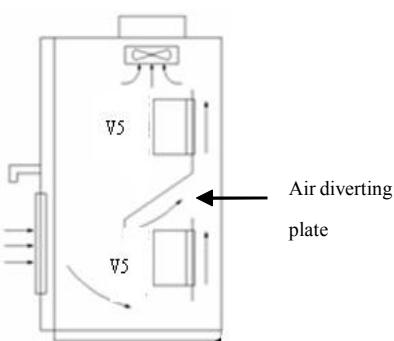

Fig. 2-2 Mounting of Multi-Inverters
- When several inverters are mounted up and down, air diversion plate should be fixed in the middle as shown in Fig. 2-2.